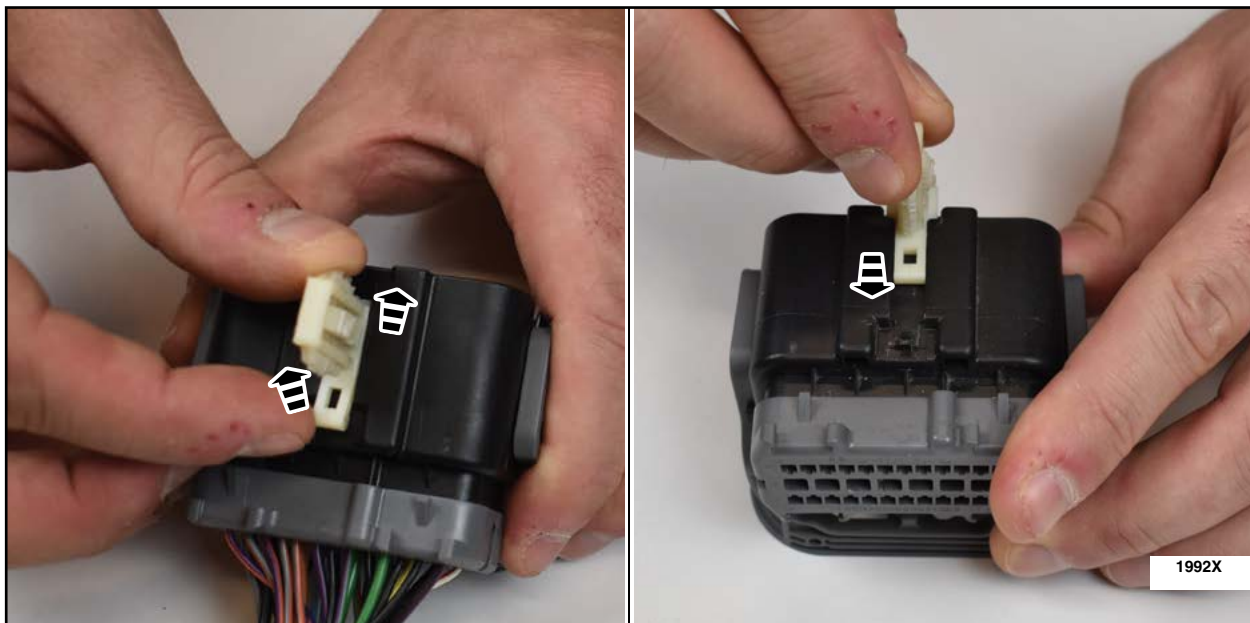

FIGURE 26
3. Transfer the original, C422 female side, connector to frame rail mounting clip as shown in Figure 26.